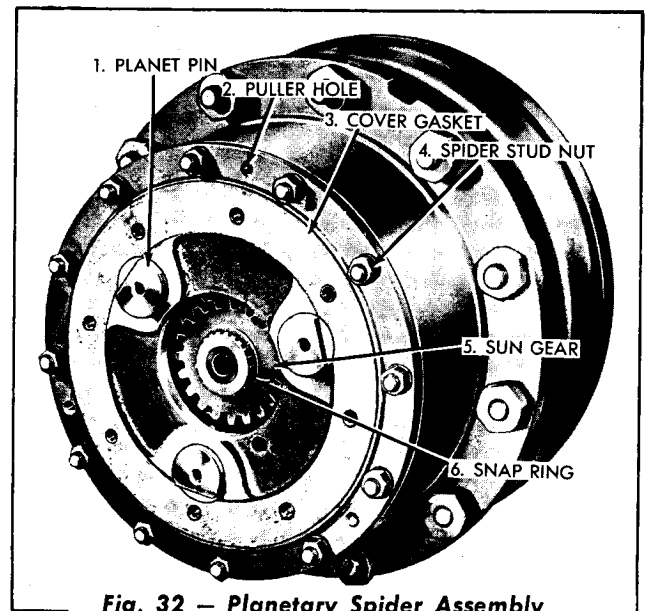

Fig. 32 — Planetary Spider Assembly
- d. Remove the planetary hub cover capscrews and remove the cover and the gasket. Remove the planetary spider stud nuts, the lock washers, the spider, and the gasket (Fig. 32).